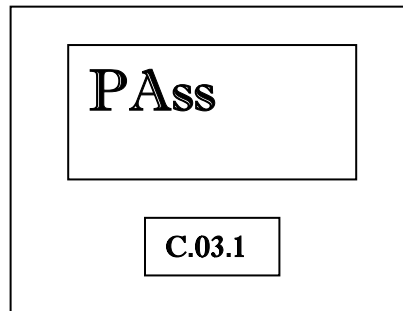

Figure 4
3. Press the **ENTER** button. When access is gained, the four dashes disappear and the PPV display appears as in Figure 4. If the dashes do not move, the access code entered did not match the code stored in memory. Press the **CANCEL** button and repeat steps 1, 2, and 3.
4. Press the **ENTER** button. If access is gained, the four dashes disappear and the main PPV display appears as in Figure 4. If the dashes do not move, an error was made. Repeat Steps 1 through 3. If an error is made recording the new access code, the only way to clear an unknown code is to **REPLACE** the memory circuit board.